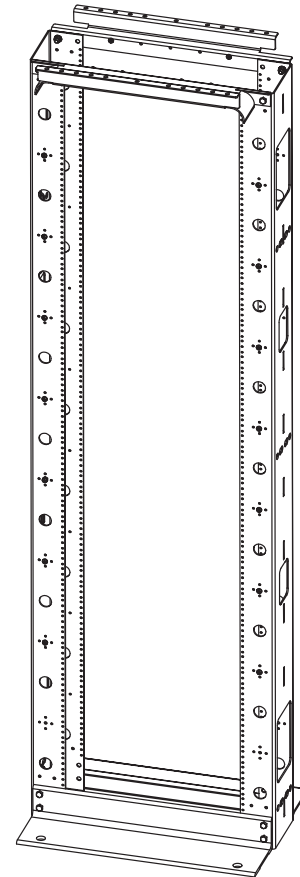

Figure 4
11. Stand rack up, square uprights, and tighten all fasteners to 27.12 Nm [20 ft.-lbs.]. See Figure 4.